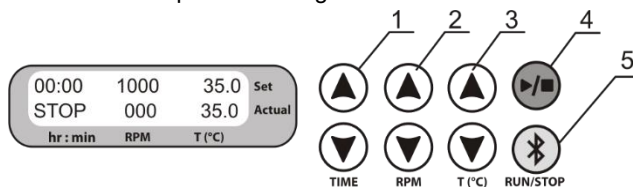

Figure 3. Control Panel
- 5.3.1 Simultaneously press and hold the ►/■ **RUN/STOP** and ⌘ **RUN/STOP** keys (fig. 3/4 and 3/5) to view the programming version (PV-XX), last four digits of MAC address (MAC-XXXX) on the top line. If the unit is paired with a PC, display shows the Bluetooth® symbol ⌘ in the top right corner and the 14-digit serial ID number of the unit in the bottom line.
- 5.6.1 **Setting time (TIME).** Using the ▲ and ▼ **TIME** keys (Fig. 3/1) set the required working time interval in hours and minutes (increment 1 min).
- 5.6.2 **Setting speed (RPM).** Using the ▲ and ▼ **RPM** keys (Fig. 3/2) set the required speed (increment 10 rpm).
- 5.6.3 **Setting temperature (T, °C).** Using the ▲ and ▼ **T, °C** keys (Fig. 3/3) set the necessary temperature (increment 0.1°C).
- 5.7.2 Press the ►/■ **RUN/STOP** key (fig. 3/4). The platform will start rotating and the timer indicator will start counting up the time interval (with 1 min precision).